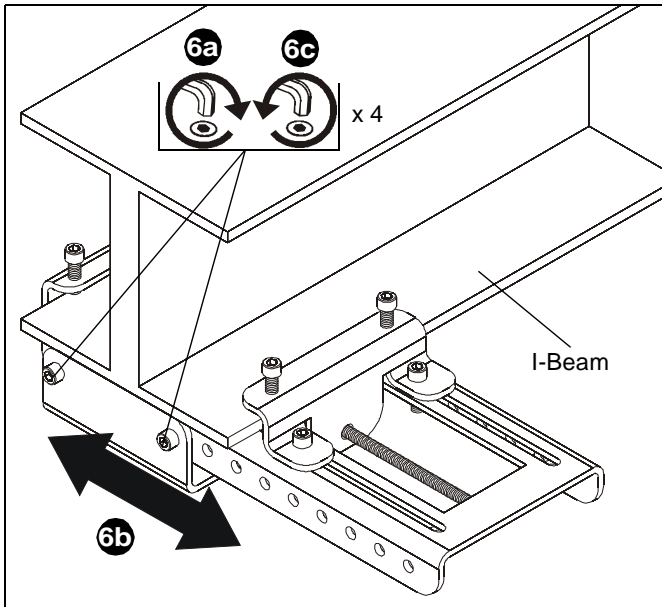

Figure 5
6. If carriage relocation is desired complete the following steps: (See Figure 5)
- a. Remove four side screws and nuts using 1/4" hex key (D) and socket set.